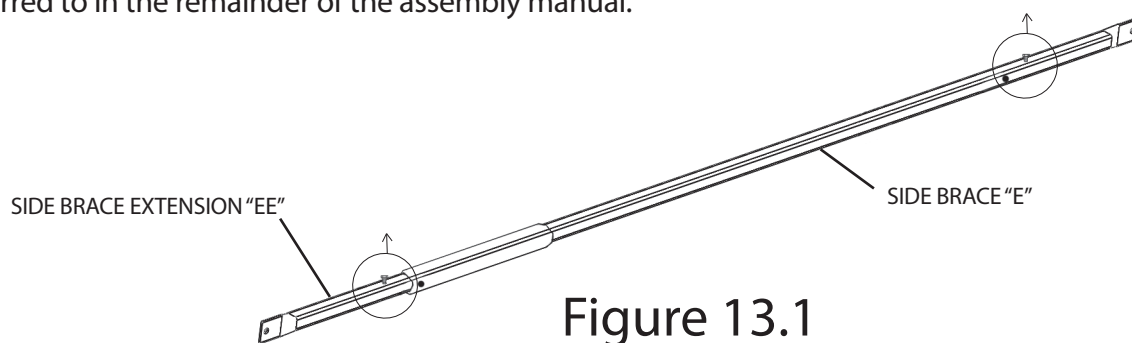

Figure 13.1
STEP 5: Locate the remaining (4) SIDE BRACES "E" and (4) SIDE BRACE EXTENSIONS "EE". Slide the SIDE BRACE EXTENSION "EE" into the corresponding opening in the SIDE BRACE "E" , as illustrated in Figure 13.1, and fasten with the hardware (4) 1.5" Bolts (4) 1.25" Bolts and (8) Nuts in the hole locations. This will create the (4) parts COMPLETED SIDE BRACE , as it will be referred to in the remainder of the assembly manual.